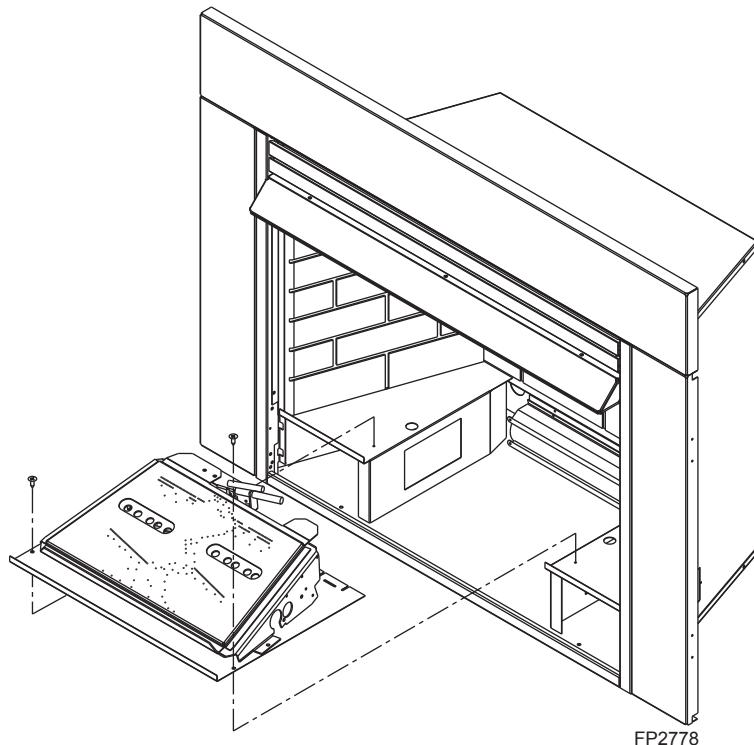

Figure 11 -
3. To remove the grate and base assembly, take out two screws as shown in *Figure 11*.